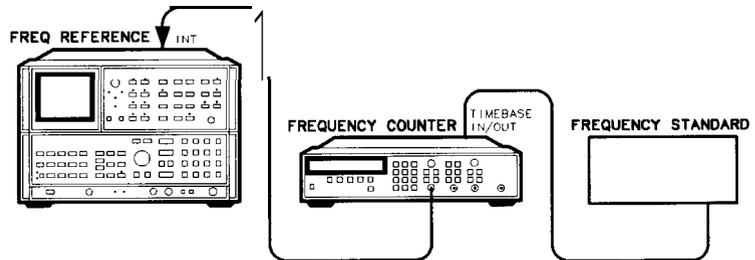

Figure 3-52. Time Base Adjustment Setup
4. Connect the (Cesium Beam) Frequency Standard to the Frequency Counter's rear-panel TIMEBASE IN/OUT connector as shown in Figure 3-52.
13. Position the spectrum analyzer on its right side as shown in Figure 3-52 and remove the bottom cover. Typically, the frequency of the A27 10 MHz Frequency Standard will shift slightly when the spectrum analyzer is reoriented. Record this shifted frequency of the A27 10 MHz Frequency Standard.